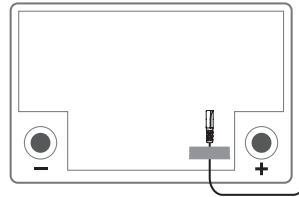

Figure 4
5. Use tape (see Figure 4) to secure the temperature sensor to a clean flat surface above the service battery. Position the sensor as close to the positive terminal post as possible.